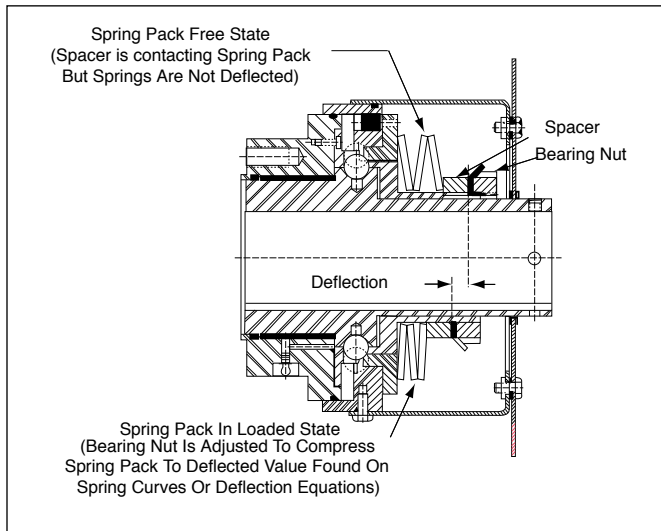

Figure 15
C. The amount of adjustment required (spring deflection) can be estimated by counting the turns of the bearing nut or can be measured as shown in Figure 15.